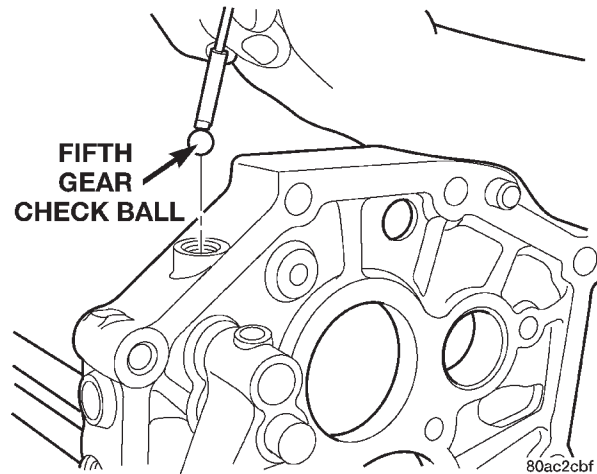

Fig. 68 Remove Fifth Gear Check Ball
(24) Remove fifth gear check ball (Fig. 68) and interlock pin.